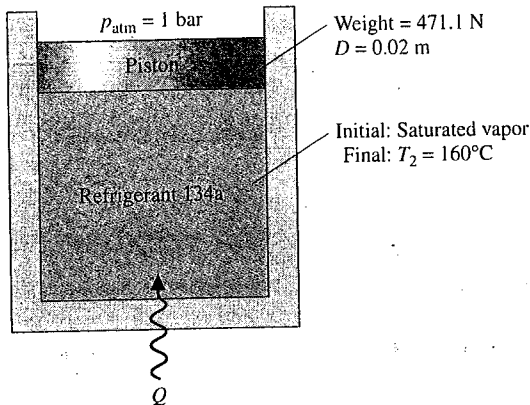

Fig. P3.37
- 3.37 As shown in Fig. P3.37, Refrigerant 134a is contained in a piston-cylinder assembly, initially as saturated vapor. The refrigerant is slowly heated until its temperature is 160°C. During the process, the piston moves smoothly in the cylinder. For the refrigerant, evaluate the work, in kJ/kg.